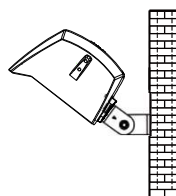

Figure 18
3. Feed wires into the junction box. Connect wires according to the **Wiring Diagram** and close the junction box. **See Figure 18.**